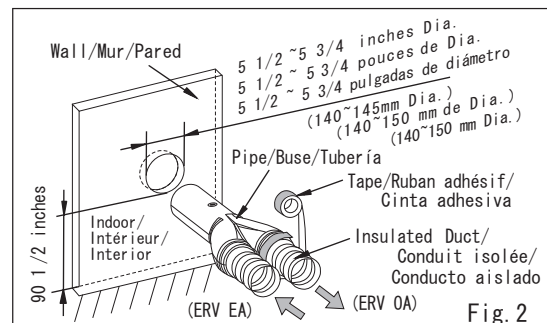

Fig. 2
(2) Cut or drill a hole (5 1/2 ~ 5 3/4 inches Dia.) through the wall. The hole must be at a minimum distance of 90 1/2 inches from the floor. (Fig. 2)
(3) Use insulated duct (4 inches Dia.) to connect the Adaptor of the Pipe and the ERV. Then secure with UL181A certified pressure sensitive tape or mastics. (Fig. 2)